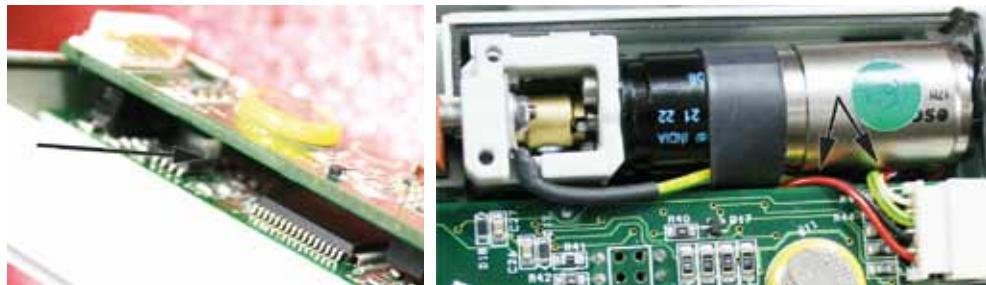

Figure 10. Correct encoder wire location
- c Insert the block assembly, making sure that the motor encoder wires are inserted between the two PCBs, and not tucked beneath the motor (Figure 10).